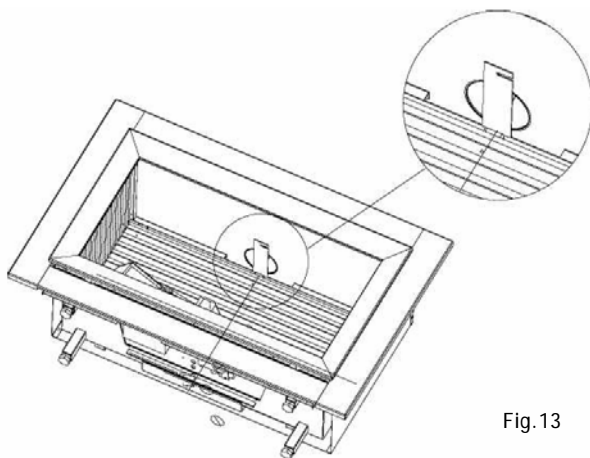

Fig.13
- 5) Like in the previous models, place the right flue restrictor in the combustion chamber (see fig. 13). To determine the right flue restrictor, see paragraph 4.2 and 4.3.
- 4) Like in the previous models, place the right flue restrictor in the combustion chamber (see fig. 13). To determine the right flue restrictor, see paragraph 4.2 and 4.3.